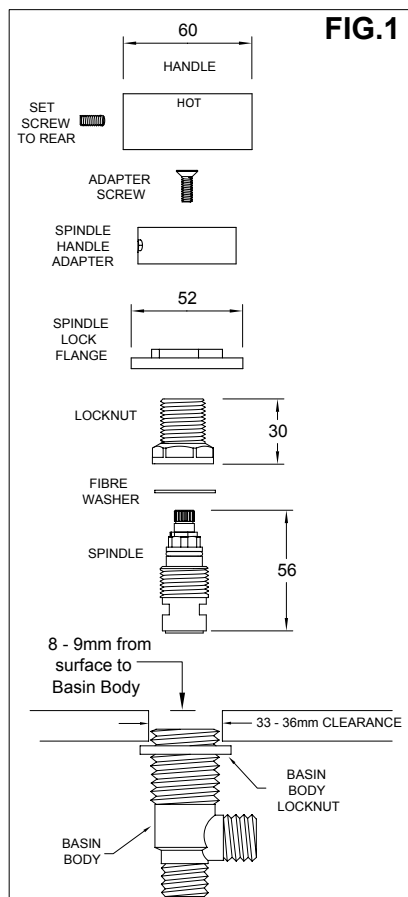

FIG.1
- The Basin Bodies must be set 8-9mm below the top surface. (See Fig.1)
- Separate all parts as shown. (See Fig.1)
- Place the Fibre Washer over the seated Spindle and fit the Spindle Locknut. (Tighten well). (See Fig.1)